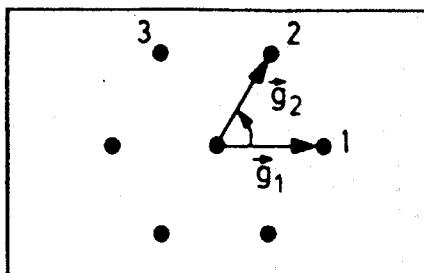

Fig. 2.8a
Fig. 2.8a and 2.8b. Procedure for diffraction measuring
- Move the first diffraction spot (1 in Fig. 2.8a) to the reference point using the **SHIFT** controls.
- Move the second desired diffraction spot (e.g. 2 in Fig. 2.8a) to the reference point. The d -value for g_2 is displayed under d_2 . The ratio of d_2/d_1 and the angle between g_1 and g_2 are displayed.
- Shift the third desired diffraction (e.g. 3 in Fig. 2.8a) to the reference point.